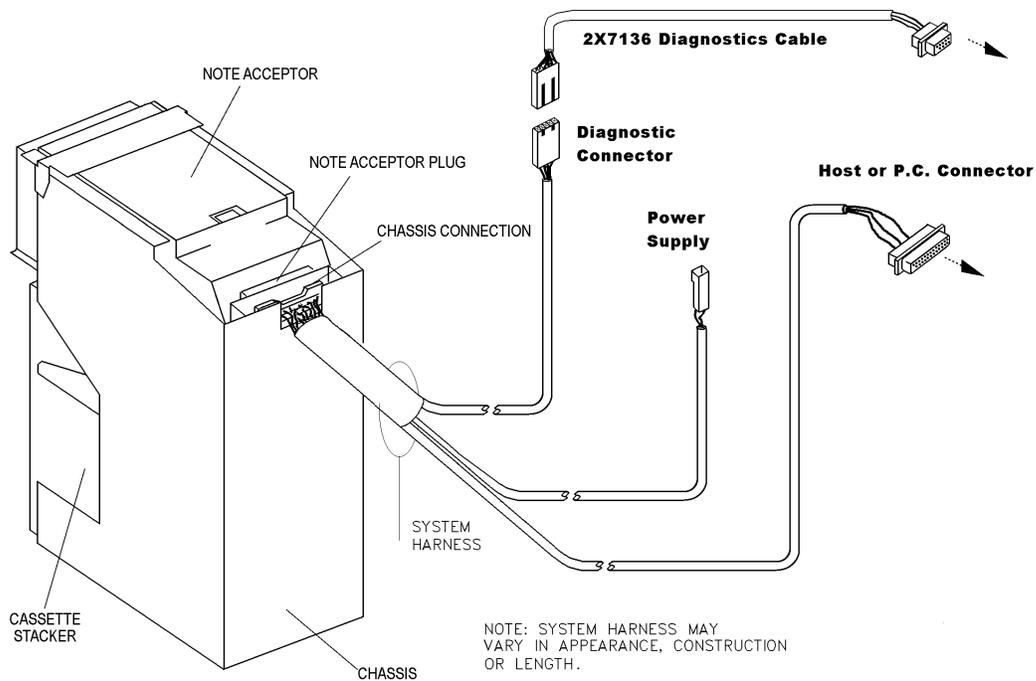

Figure 8-1
2. Refer to Figure 8-1, and connect the 5-pin connector of the WACS4 harness to the 2x7136 diagnostic connector and the other end of the 2x7136 cable to the computer serial port.